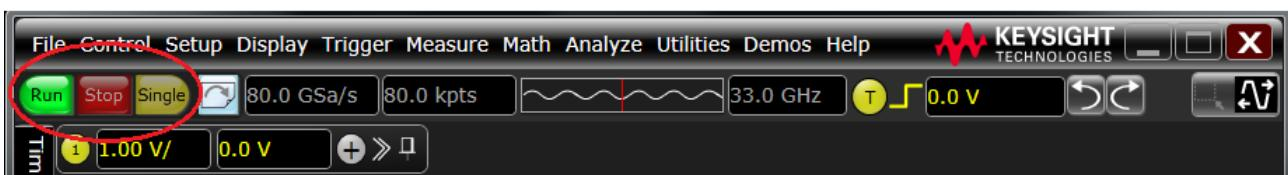

Figure 24 Manual Measurement Control buttons on the Infinium Application
- During Automated measurements using the Keysight D9010ETHC Ethernet Compliance Test Application, the Test Application sends a :DIGITIZE command to the Oscilloscope, which invokes a special mode of data acquisition. This command (similar to repeatedly using the **SINGLE** button on the Oscilloscope as shown in Figure 24) initializes the selected channels or functions, then acquires them according to the current oscilloscope settings. When all waveforms are completely acquired, the oscilloscope is stopped. When averaging, it is necessary to know when the average count has been reached. The :SINGLE command (or pressing the **SINGLE** button) does not average. The Keysight D9010ETHC Ethernet Compliance Test Application triggers the :DIGITIZE command to acquire and perform the complete number of averages required for the measurements. This operation of averaging runs in the background and the Oscilloscope screen is not updated until all the averaged waveforms are acquired.
- During Manual measurements using the Keysight Infinium Application, when you click the **Run** button on the Oscilloscope, as shown in Figure 24, you can visualize the entire process of averaging being performed on the Oscilloscope screen.